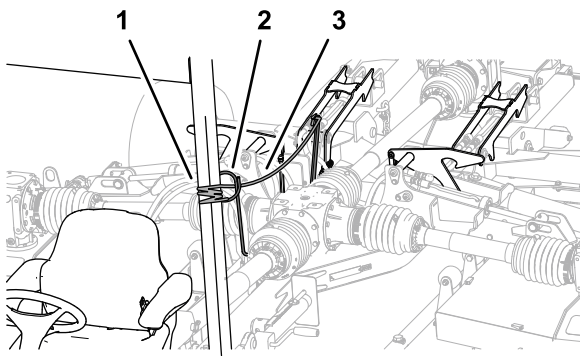

Figure 32
3. Pull and hold the deck-lock rope (Figure 32).